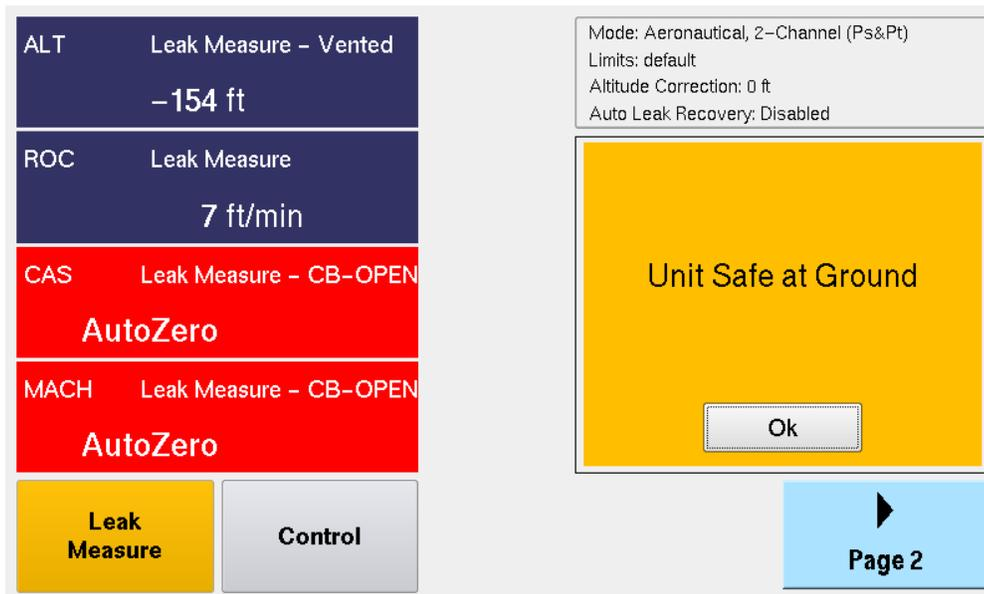

Figure 56 Unit Safe at Ground
- e) Once the Test Set and aircraft or instrument(s) under test are safe at ground “ambient” pressure, the Leak Test results will be displayed (FIG. 56).